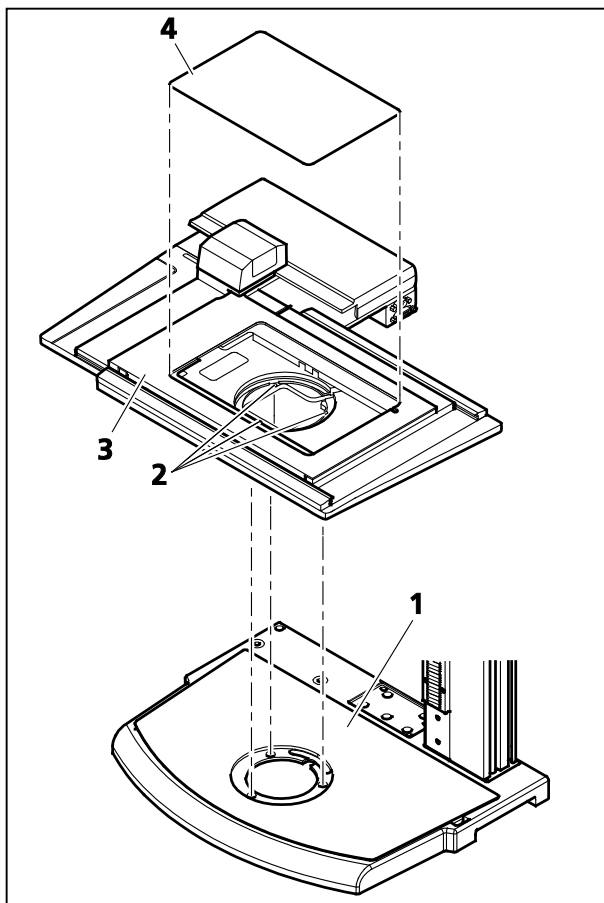

Fig. 6 Mounting the mechanical / measuring stage mot. on stand base 450
- Set the mechanical / measuring stage (Fig. 6/3) on the insert plate (Fig. 6/1) (stage drive pointing to the left), align to the rear edge and secure with the three captive screws (Fig. 6/2) of the stage on the transillumination top.
- Insert the metal plate (Fig. 6/4) into the stage.
The red dots on the stage (Fig. 6/3) and metal plate (Fig. 6/4) are to ensure reproducibility of the alignment of the metal plate and stage if the former needs to be detached.